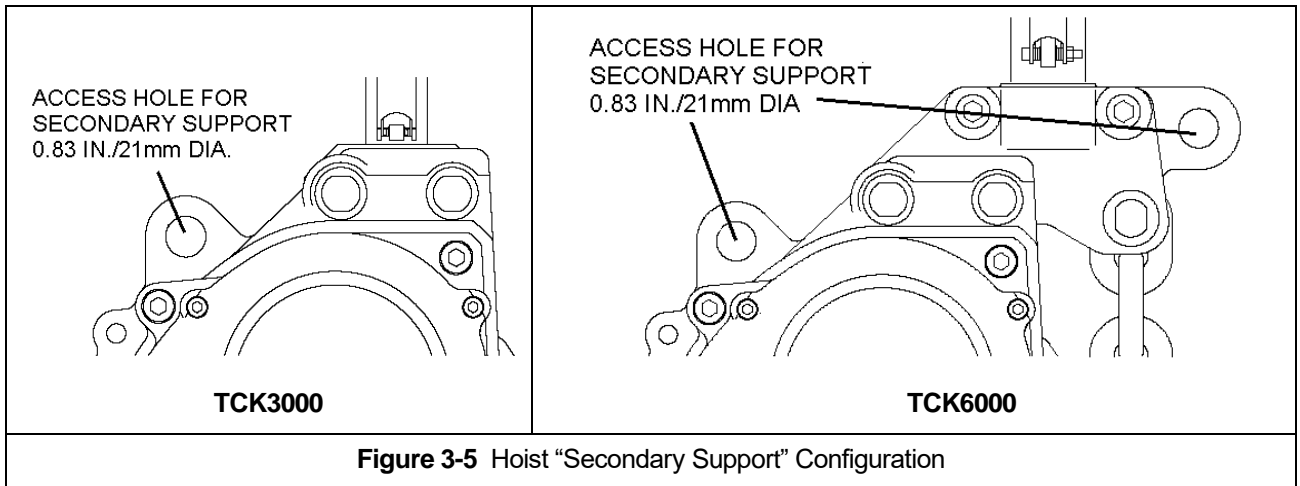

Figure 3-5 Hoist "Secondary Support" Configuration
- 3.8.1 For applications requiring a “Secondary Support” a support attachment location has been provided in the hoist Top Hook Yoke/Hoist Body. Reference Figure 3-5.